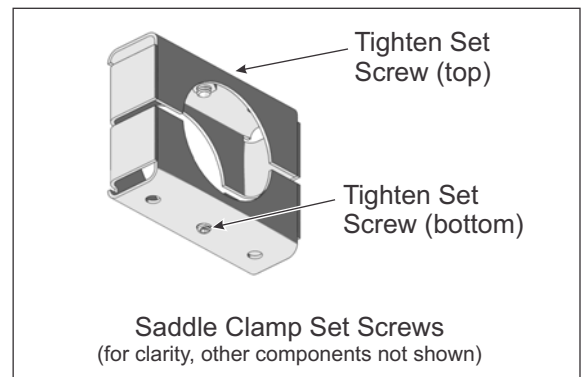

Figure 8-4: Tighten Set Screws
- D. Tighten the knurled-point Set Screws (top & bottom) of the Saddle Clamps. (See Figure 8-4)